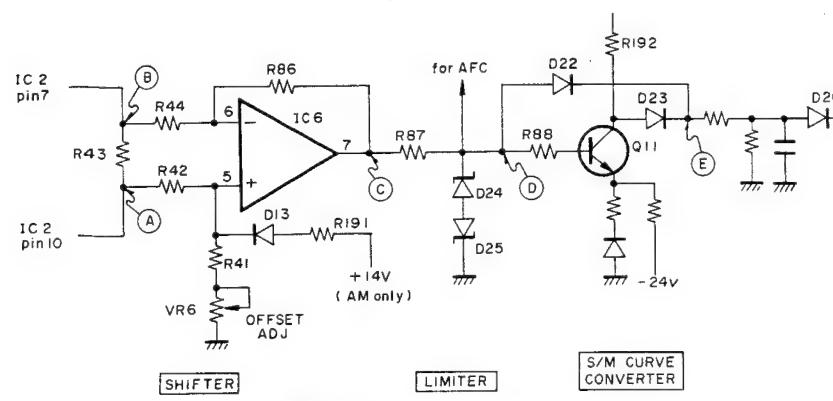
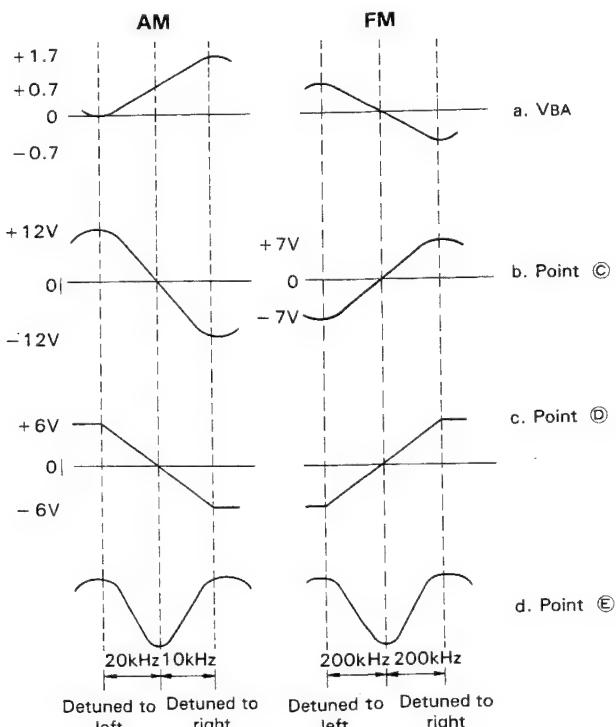

Fig. 7 S-Curve Detector
Fig. 8 Voltages at Each Point in Figure 7
This circuit detects the S curve signal and passes through the  $\pm 6$  V limiter where the AFC signal is obtained, then the S curve signal is converted into the M curve signal to detect the correct tuning point. Potential changes at points (A)~(E) shown in figure 7 are shown in figure 8.
The S/M curve converter is provided to detect the correct tuning point (0 V cross point of S curve) exactly. Q11, D22 and D23 change their states as shown in table 4 according to the polarity of the signal at point (D), and the output waveform is as shown in figure 8-d. This signal is applied to the base of Q12 through D26.